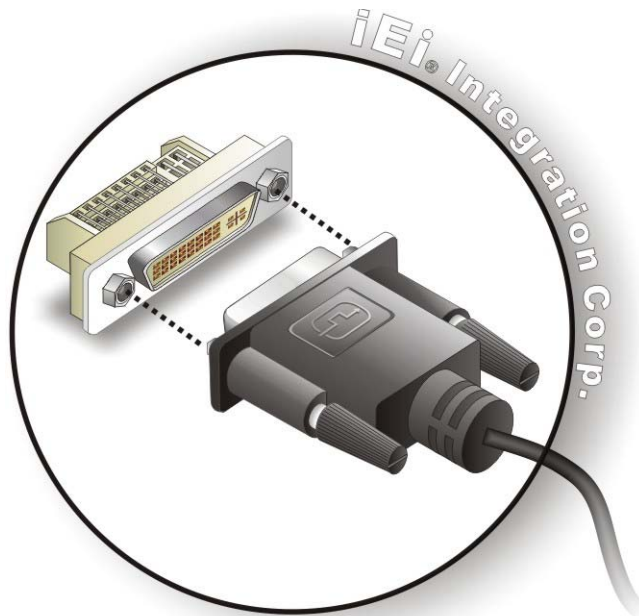

Figure 4-19: DVI Connector
Step 3: Insert the DVI-I connector Once the connectors are properly aligned with the male connector, insert the male connector from the digital display device into the female connector on the KINO-QM770. See Figure 4-19.